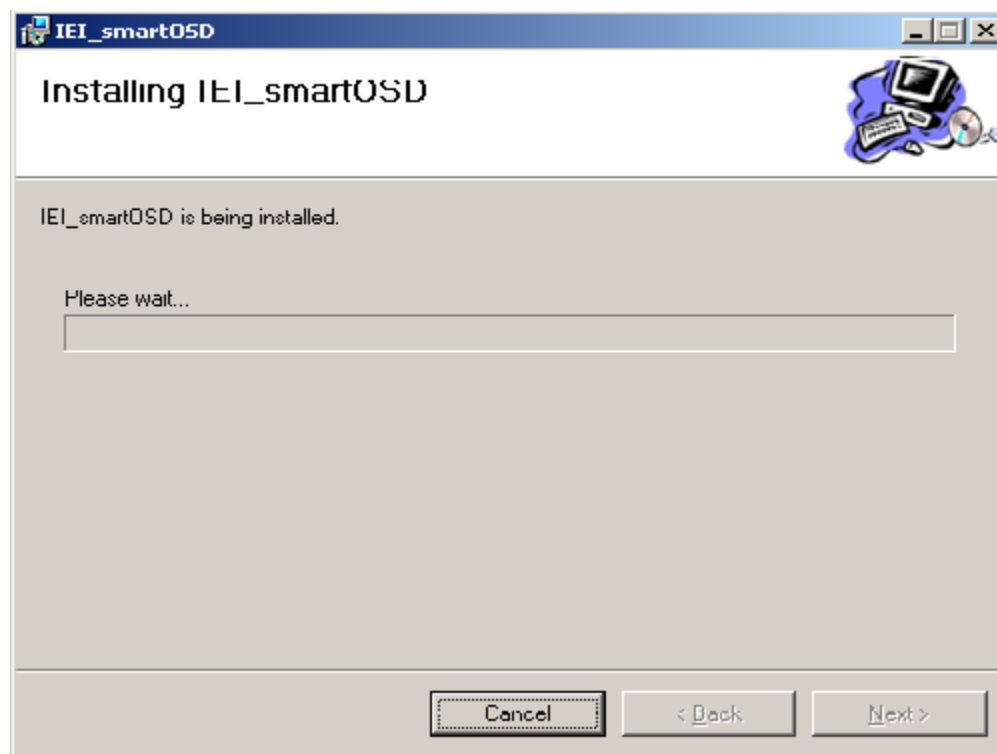

Figure 6-5: smartOSD Installation Progress
Step 10: The program starts to install and the progress bar shown in Figure 6-5 appears.